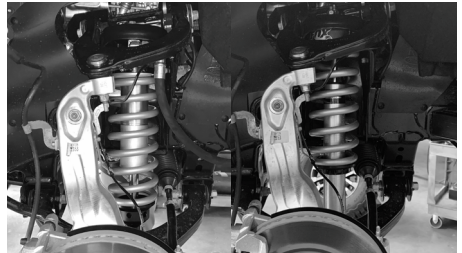

Figure 12: Driver Side Shown, (Left: 2.5 Factory Race Series Shock, Right: 2.0 Performance Series IFP Shock)
25. Installed coil-over will resemble Figure 12.